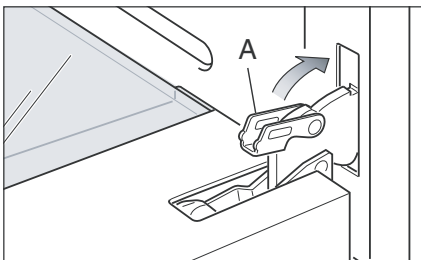

Fig.56e
- 2 **Unlock the oven door** by opening it completely and closing the lever "A" on the left and right hinges (Fig. 56e).